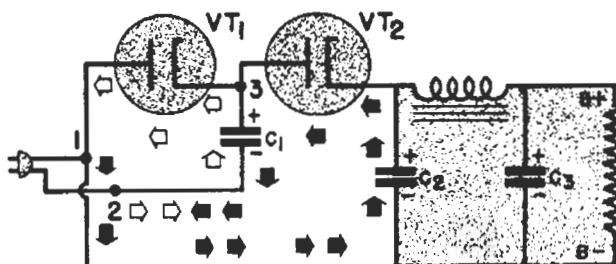
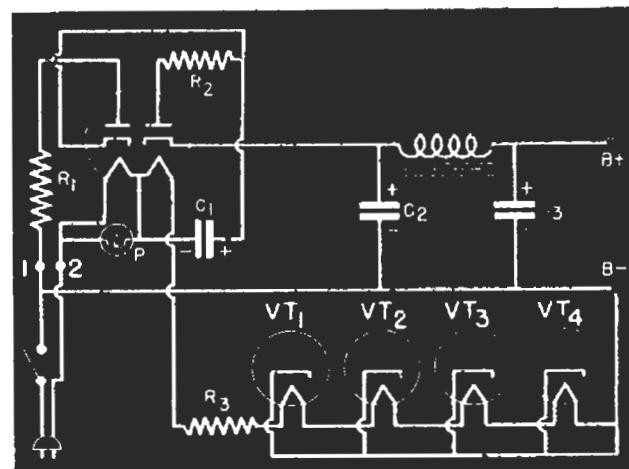

FIG. 13. The half-wave voltage doubler.
FIG. 14. A typical commercial half-wave voltage doubler.
Like the full-wave voltage doubler, the half-wave voltage doubler uses a condenser as a voltage source—but as a source of voltage for a rectifier tube. Fig. 13 shows the basic circuit.
► Notice that the $B-$ terminal connects to one side of the power line in Fig. 13. This means that when the filament string is connected across the power line, there will be no d.c. volt-
A complete half-wave voltage-doubler circuit is shown in Fig. 14. The action is identical to that of Fig. 13 as far as the B supply is concerned. Protective resistors R_1 and R_2 are used in series with the plates; also the pilot lamp P and its shunting section of the filament are between condenser C_1 and terminal 2—which is another protective feature. The current flow